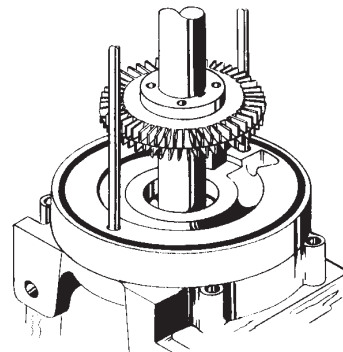

Figure 4-8
9. Slide an impeller (#11) onto the shaft (#17) and over the key (#23) nearest the drive end.(refer to figure 4-8) Place the impeller-shaft assembly into the ring, with